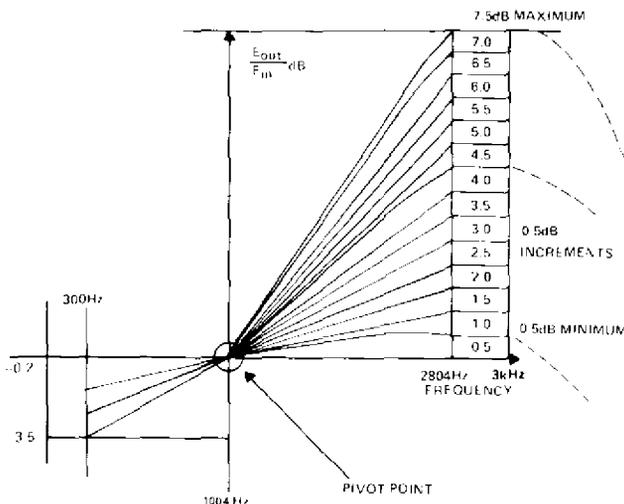

figure 2. Typical response curves for receive-channel equalizer
2.04 Up to 7.5dB of prescription-set active slope equalization at 2804Hz (re 1004Hz) is available in the receive channel of the 263DA-2 and 263DB-2. The amount of equalized gain introduced into the receive channel is selected, in 0.5dB increments, by a four-position DIP switch on each unit's equalizer subassembly. Typical flatness achievable with the slope equalizer is ±0.3dB from 404 to 3200Hz (re 1004Hz). Typical frequency response of the equalizer is shown graphically in figure 2 and in tabular form in table 2.
2.05 As can be seen in figure 2, the response curves of the slope equalizer "pivot" at 1004Hz. Thus, the equalizer has no effect upon 1004Hz levels. As a result, equalization can be introduced into the receive channel of the 263DA-2/DB-2 not